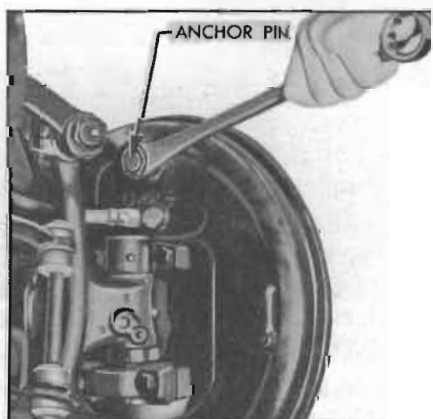

Figure 8-9—Using Anchor Pin Nut Wrench J 854
5. Check all anchor pin nuts with 16" Wrench J 854 to make certain nuts are tight. See figure 8-9. If an anchor pin nut is found loose, reset anchor pin as instructed in paragraph 8-15, step 19 otherwise *do not disturb anchor pins*.
14. Check all backing plate attaching bolts to make sure they are tight. Check anchor pin nuts for tightness, using Wrench J 854 (fig. 8-9). If an anchor pin nut is found loose, anchor pin must be reset as described later (step 19).
(b) Use Wrench J 854 (fig. 8-9) to loosen anchor pin nut just enough so that pin can shift in slotted hole in backing plate. If nut is loosened too much, the anchor pin will tilt due to pull of brake shoe springs.